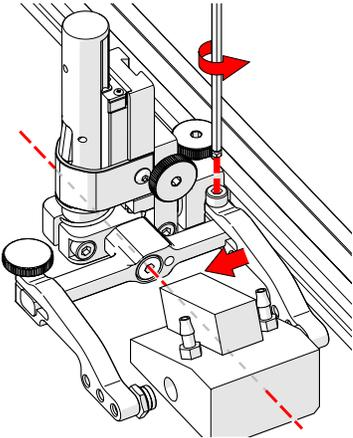

Fig. 46 - Adjust inner arm
5. Position the wedge on the inner probe holder arm (Fig. 46).
**TIP:** The probe holder yoke can accommodate many different probe and wedge sizes of varying widths. It is best to centre the wedge with the yoke's pivot axis. This can reduce wedge 'rocking' when scanning. Position the inner probe holder arm accordingly (Fig. 46) using the supplied 3 mm hex driver (Fig. 14).